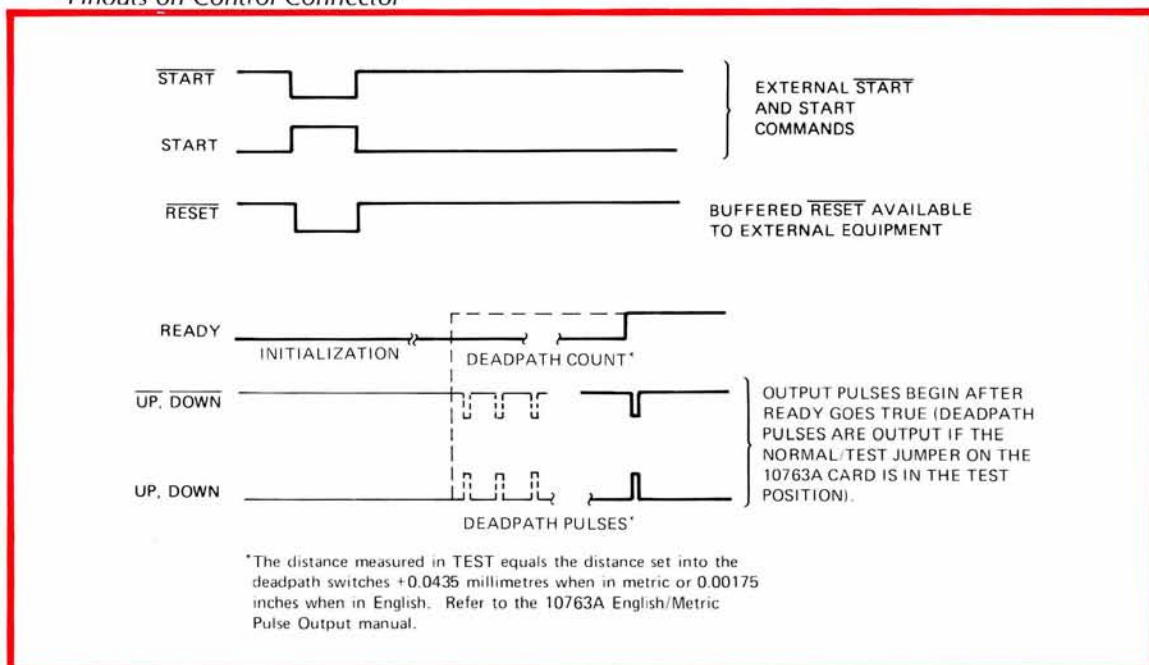

Figure 5-10. Control Connector Signal Timing Diagram
- i. Connect the control connector (part of the 10763-60002 cable) to the system controller (see *Table 5-4* for signal definitions and *Figure 5-10* for signal timing relations).